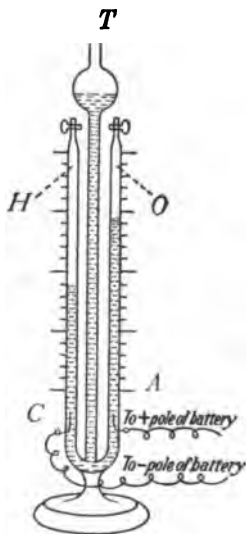

FIG. 263.—Electrolysis of water; oxygen collects in *O*, hydrogen in *H*.
**283. Electrolysis of Water.**—Two glass tubes (Fig. 263), *H* and *O*, are attached at the bottom to a horizontal glass tube. To the latter is also connected an upright tube *T*. At the lower ends of *H* and *O* are inserted, fused in the glass, platinum wires, *A* and *C*. The tubes are filled with a weak solution of sulphuric acid. The tops of *H* and *O* are closed with stopcocks, *T* being open; a current of electricity is sent in at *A* and out at *C*. A movement of the ions at once be-